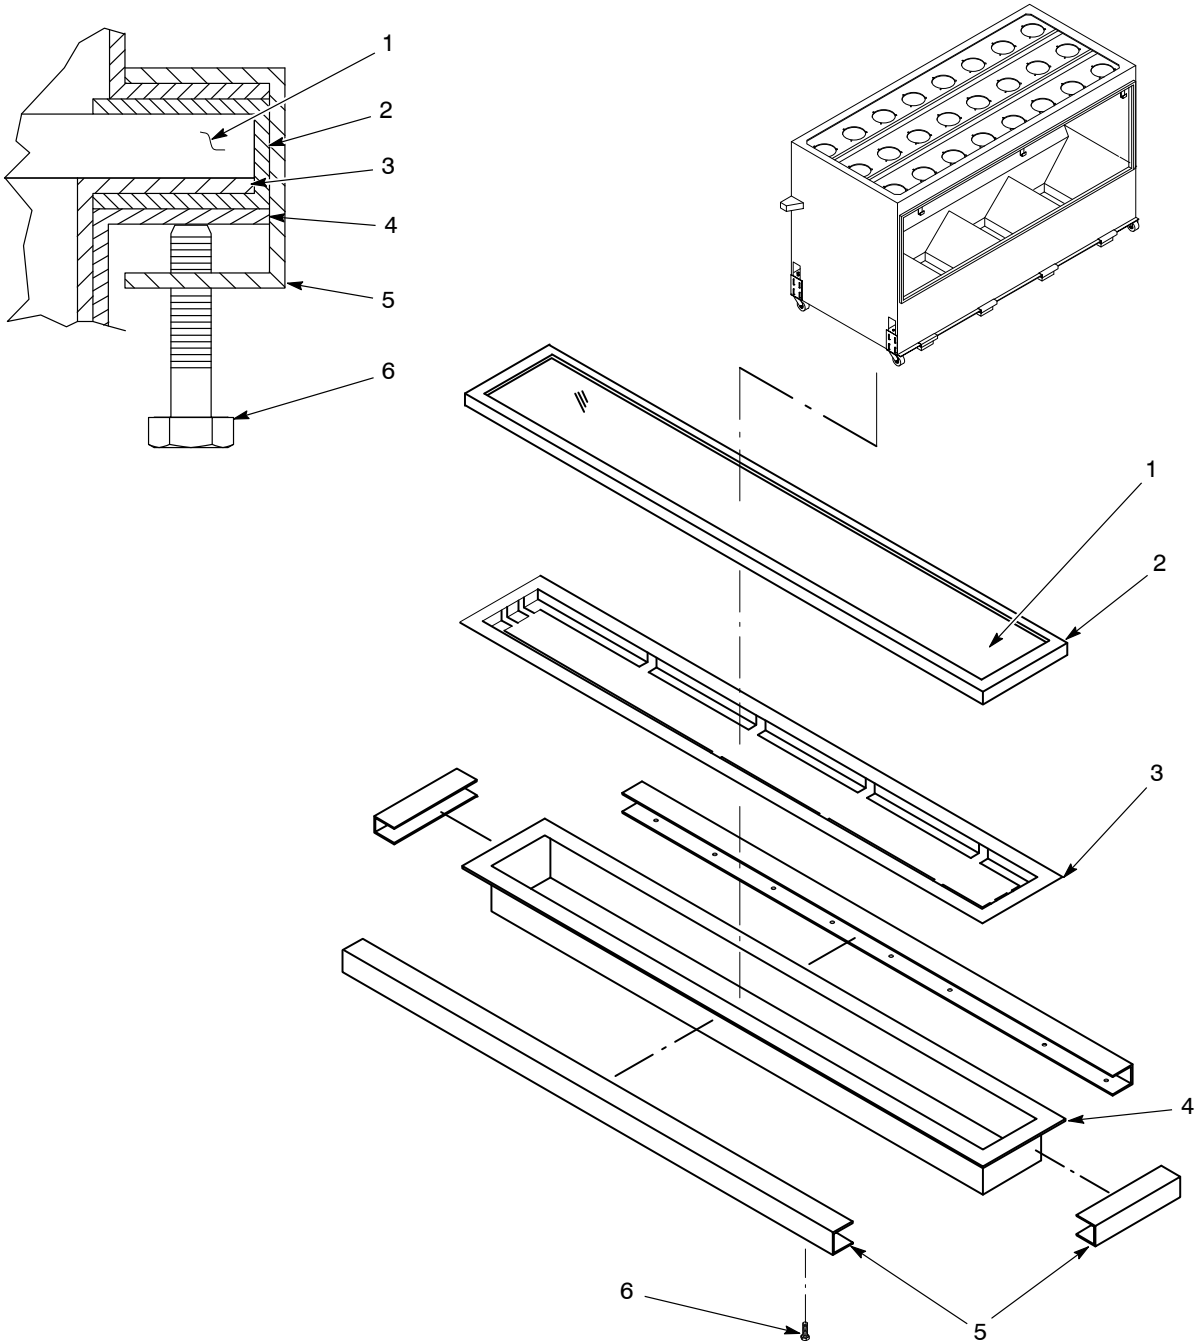

Figure 6-4 Color Module Fluidizing Plate Replacement (Systems Made Before 2003)
2. See Figure 6-4. Unscrew the clamping-channel screws (6) about 6–10 mm (0.25–0.375 in.) to clear the fluidizing plate gaskets (2). Support the fluidizing plenums (4) and remove the clamping channels (5).
4. Separate the old fluidizing plates (1), gaskets (2), and diffuser plates (3). Discard the old fluidizing plates.